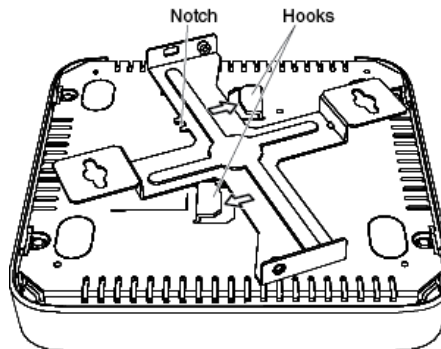

Figure 7. Locking Bracket to Access Point
3. Turn the bracket in the direction of the arrows shown in Figure 7 until the two hooks hold the bracket: The stopper nub pops up, and the bracket locks in place.